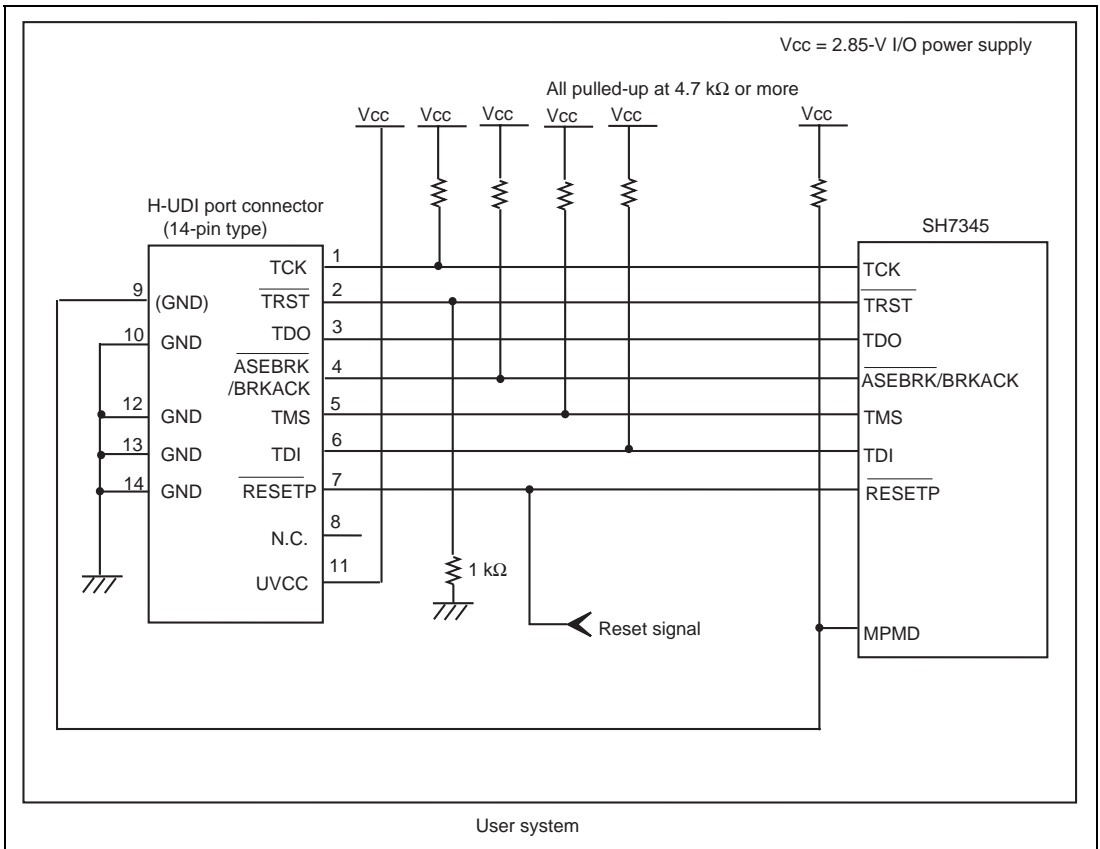

Figure 1.4 Recommended Circuit for Connection between the H-UDI Port Connector and MPU when the Emulator is in Use (14-Pin Type)
Figure 1.4 shows a recommended circuit for connection between the H-UDI and AUD port connectors (14 pins) and the MPU when the emulator is in use.
7. The resistance values shown in figure 1.4 are reference.
When the circuit is connected as shown in figure 1.4, the switches of the emulator are set as SW2 = 1 and SW3 = 1. For details, refer to section 3.8, Setting the DIP Switches, in the SuperH™ Family E10A-USB Emulator User's Manual.